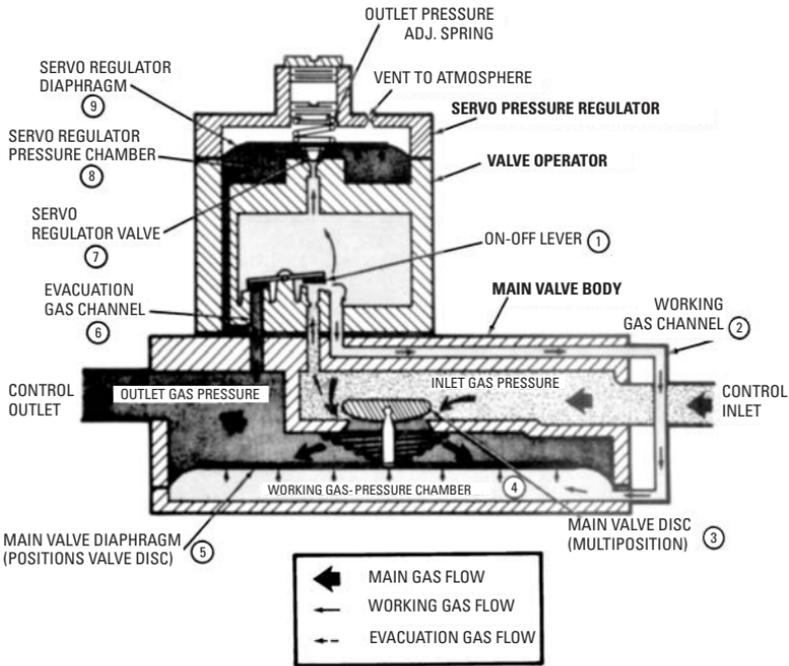

Figure 5-49 Wiring diagram of a combination gas control in the burner on position. (Courtesy Honeywell Tradeline Controls)
A call for heat from the room thermostat energizes the valve operator and causes the lever to open the inlet port (see Figure 5-49). The working gas then flows into the pressure chamber (4) and pushes the diaphragm (5) up against the valve disc assembly (3) to allow the flow of gas through the valve to the burner. At the same time, gas also flows into the pressure regulator chamber (8) and through the evacuation gas channel (6) into the combination gas control outlet.